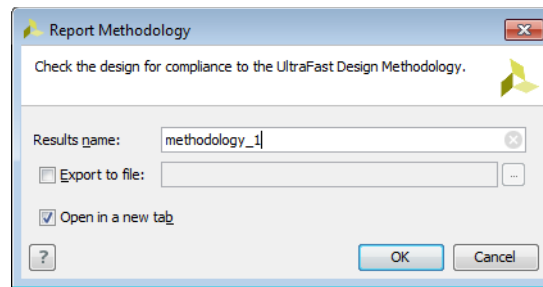

Figure 4-4: Report Methodology Dialog Box
3. In the Report Methodology dialog box (Figure 4-4), set these options, and click **OK**: